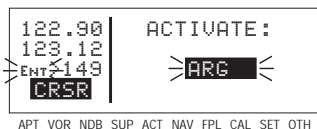

Figure 5-44
- Press **[▶]** a second time. The annunciation **DIRECT TO** changes to **ACTIVATE** (figure 5-44). Repeated presses of **[▶]** cause the annunciation to alternate between **DIRECT TO** and **ACTIVATE**. Make sure **ACTIVATE** is displayed.